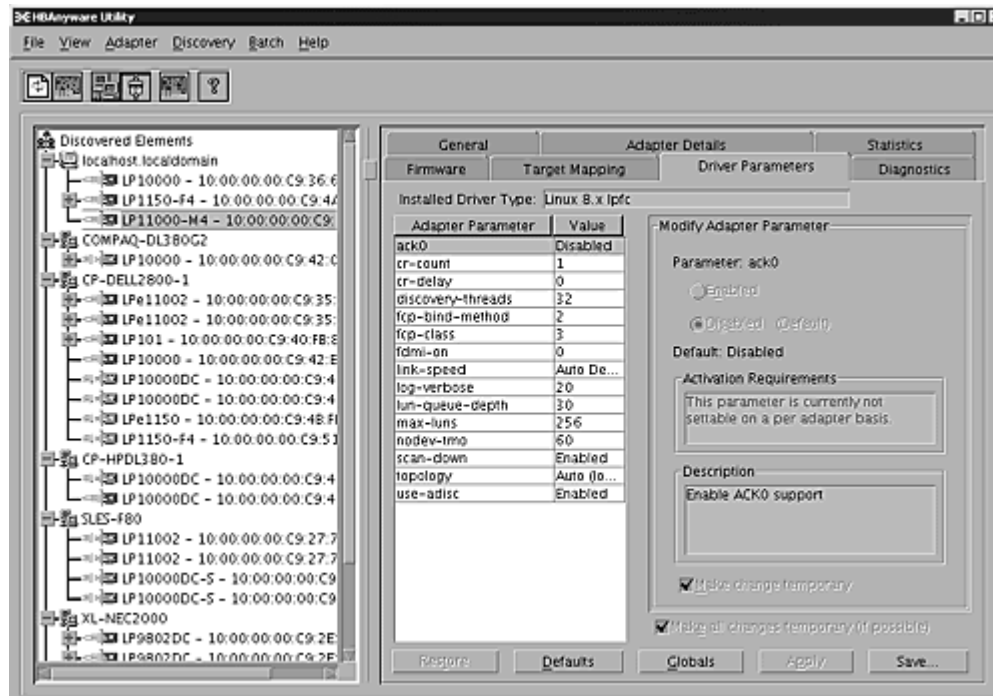

Figure 28: HBAAnyware Utility, HBA Selected - Driver Parameters Tab
4. Select the **Driver Parameters** tab (Figure 28). The parameter values for the selected HBA are displayed.
3. Select the **Driver Parameters** tab. Set driver parameters (see Figure 28 on page 62).